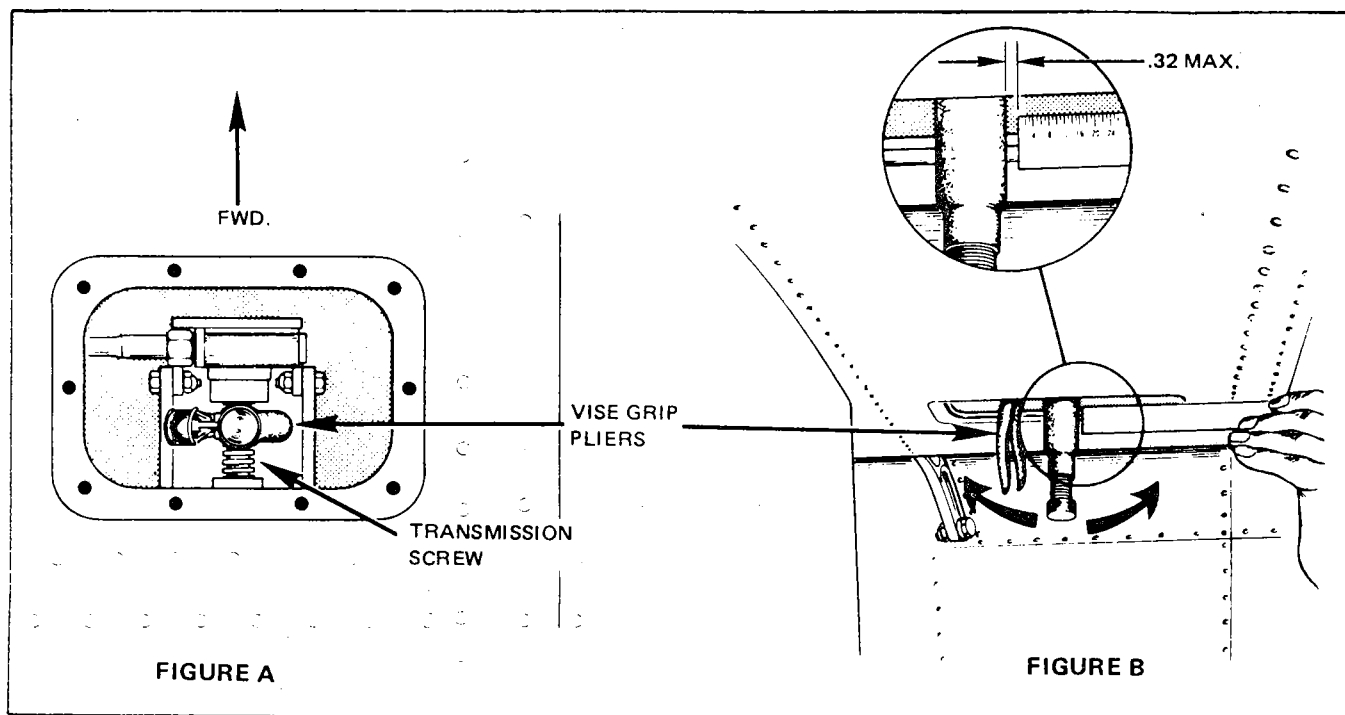

Figure 1. Wing Flap Transmission Inspection
1. INSPECTION OF WING FLAP TRANSMISSION, (Refer to Figure 1.) The flap transmissions are inspected at every 100 hour inspection cycle of the aircraft. This is accomplished without removal of the transmissions, by the following procedures:
- c. With the use of vise grip pliers and exerting light pressure, grasp the exposed portion of the screw close to the transmission as shown. (Refer to Figure 1, views A and B).
- e. Place a six inch ruler along the skin surface as shown in Figure 1, view B, and measure the overall distance the pliers move.